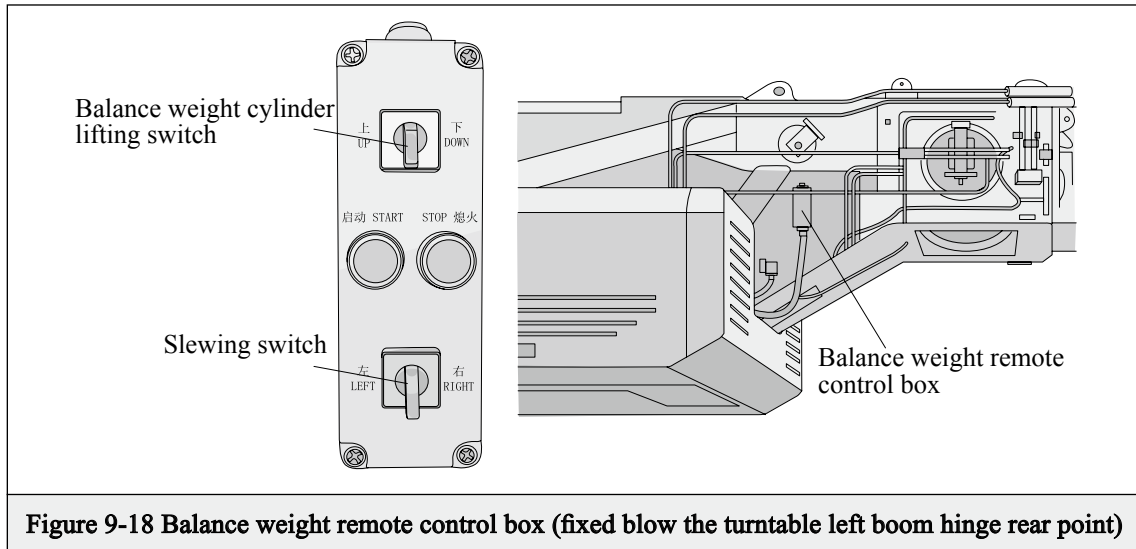
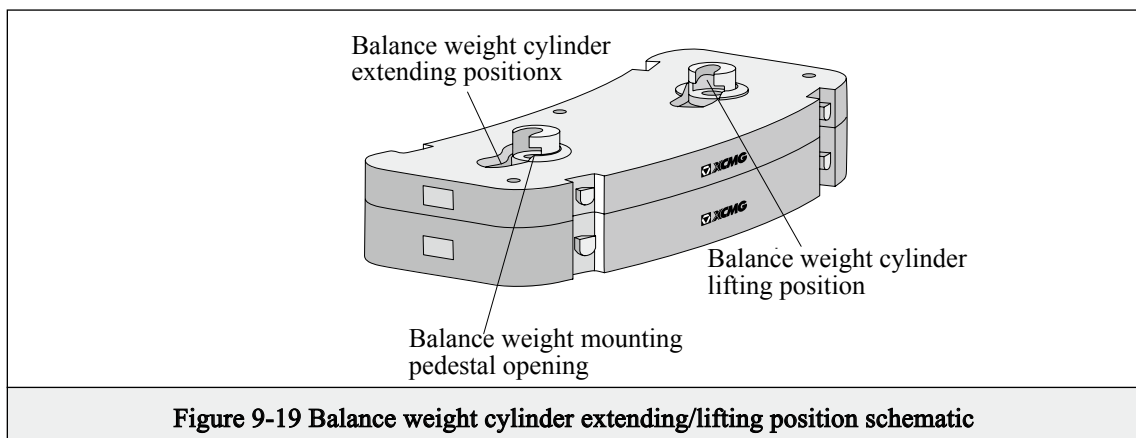

Figure 9-18 Balance weight remote control box (fixed below the turntable left boom hinge rear point)
Figure 9-19 Balance weight cylinder extending/lifting position schematic
5. Operate the "slewing switch" on remote control box (Figure9-18), and slewing runs at low speed, so that the balance weight cylinder is aligned at the "Balance weight cylinder counter weight cylinder extending position" in Figure9-19; adjust slightly the telescopic cylinder stretching length, and align with balance weight mounting pedestal opening (Figure 9-19)
6.Continue to manipulate the "rotary switch" on the remote control box, to realize counterclockwise rotation (turning left), so that the balance weight cylinder aligns with the "balance weight cylinder lift position" in Figure 9-19.
3. Repeat balance weight installation step 4, slowly rotate (rightward) with the "rotary switch" on the balance weight remote control box, and observe that the balance weight cylinder is aligned to the extending position (Figure 9-19);